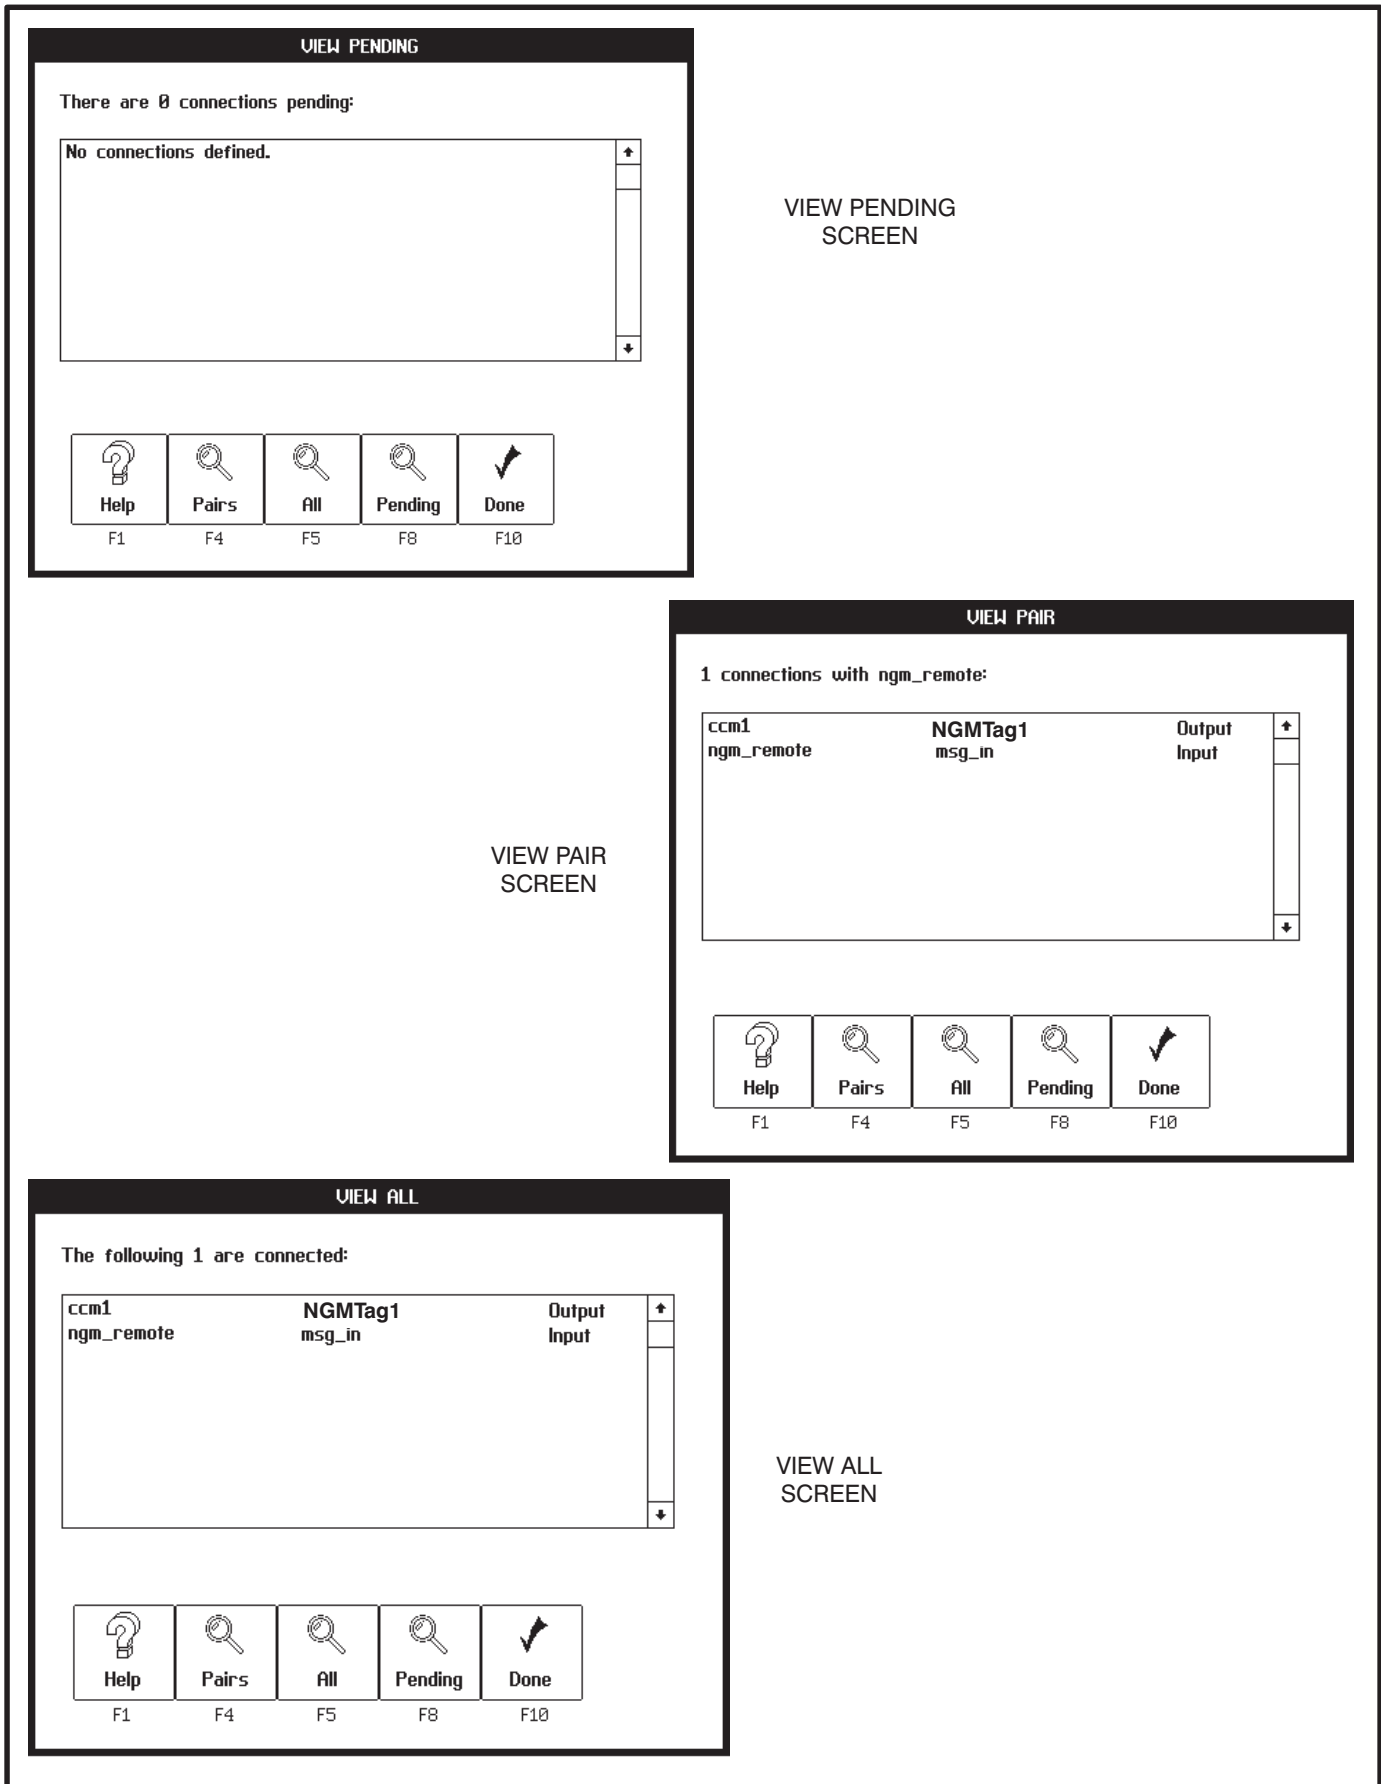

FIGURE 3-13. CONNECTION VIEWING SCREENS
5. Make sure that LonMaker is “attached” to the correct channel. Refer to the icon in the upper right corner of the screen (Figure 3-13) to determine if the Network Installation Gateway is attached. If it is not attached, click on this icon. If it will not *attach*, check the cable connection to the PC and verify that it is connected to the correct COM port as identified in the config.sys file (/P1, /P2, etc.). Also try cycling power on the Network Installation Gateway and make sure its service LED blinks once when the power is cycled On.
1. Click on the Installation task button (Figure 3-13).
When you select the Pair action button, the VIEW PAIR screen (Figure 3-13) appears.
When you select the All action button, the VIEW ALL screen (Figure 3-13) appears.